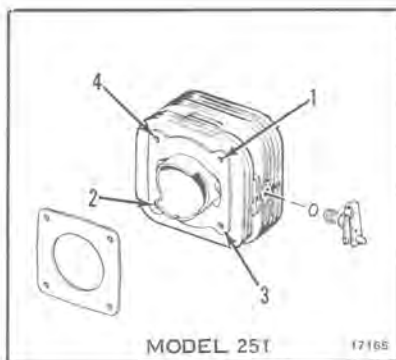

Figure 9-23
- a. Install cylinders, using new gaskets. Use a ring compressor (Special tool 426020) to install pistons in cylinders. Tighten nuts in correct sequence to specified torque. See Figures 9-23 and 9-24.